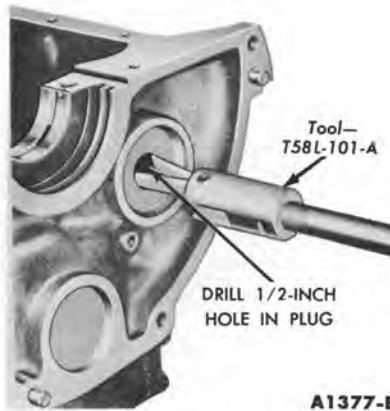

FIG. 78—Camshaft Rear Bore Plug Removal
1. Remove the flywheel and the camshaft. Remove the rear bearing bore plug (Fig. 78).
22. Remove the camshaft rear bearing bore plug (Fig. 78).